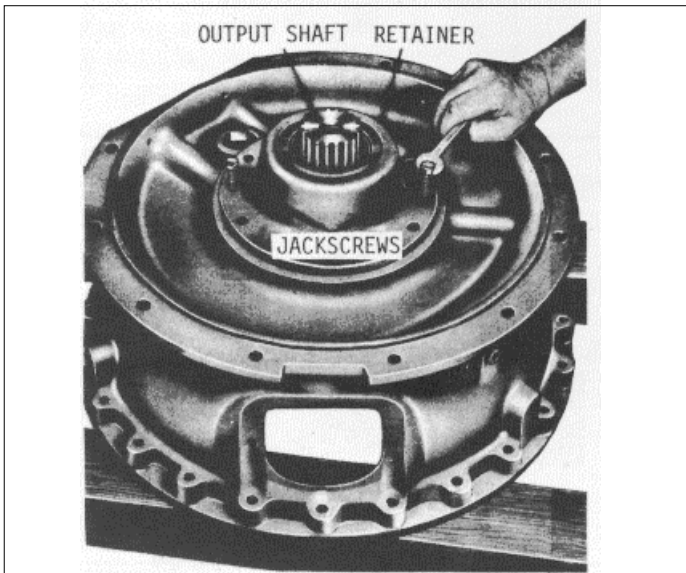

Fig. 12
- (1) Position the converter housing with the output shaft up (Fig. 12).
- (2) Remove six bolts and lockwashers retaining the bearing retainer.
- (3) Using jackscrews, remove the bearing retainer and gasket from the converter housing (Fig. 12).